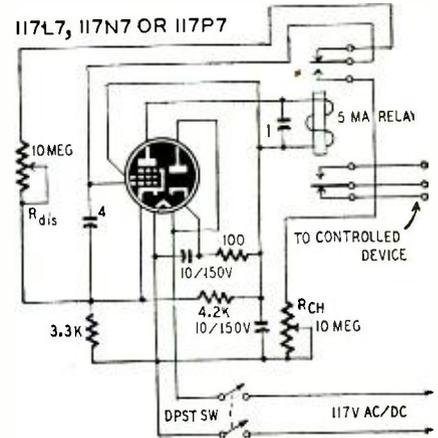

Fig. 3—Reciprocator opens and closes relay.
Fig. 3 shows the same type of time-delay circuit used as an interrupter or reciprocator.
**MATERIALS FOR RECIPROCATOR—Fig. 3**